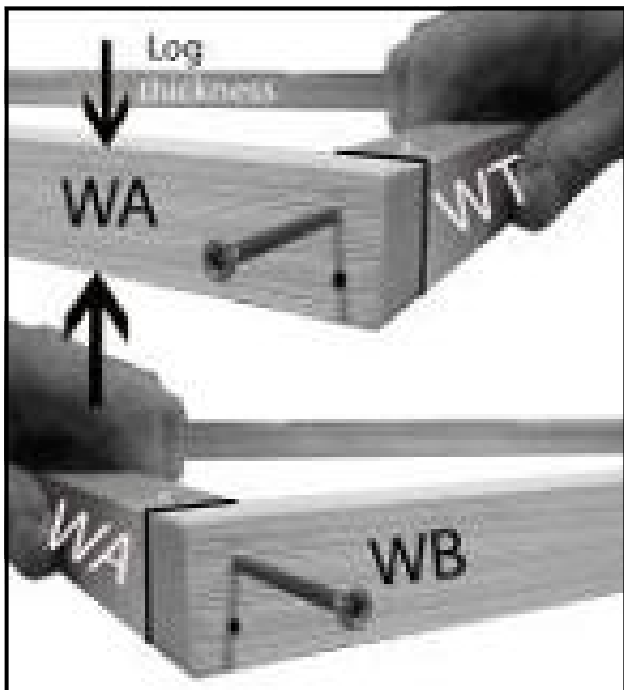

Fig A1
4. Lay out the parts **WA** and **WB** and **WT** as in the inner frame assembly drawing. The narrowest (25mm) edge to the work bench and the side the size is the same as the log thickness as shown in fig A1 . Part **WT** must be inside parts **WA** and part **WB** underneath the two **WA** parts (Fig A1) .
5. Pre drill 2 3mm holes at one end of the **WA** only and at both ends of the **WB** parts (**see drawing**)and screw together at each corner,10mm in from the edge (ensuring each corner is flush) with 2x50mm screw (fig A1).